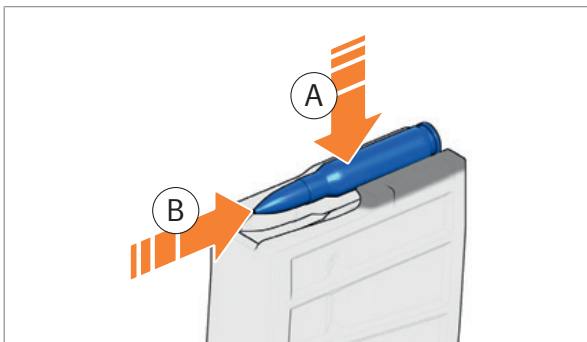

Fig. 71: Fill the magazine
2. Push cartridge under the magazine lips (*Fig. 71*).
3. Push cartridge to the rear as far as it will go (*Fig. 71*).